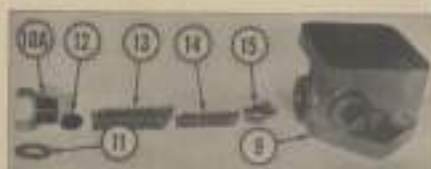

Fig. 17 — Exploded view of Webster power steering pump relief valve assembly shown at 10—Fig. 16.
On D-17 diesel and non-diesel Series III and Series IV models equipped with Webster power steering pump, remove hex plug (10A—Fig. 17) and add or remove shims (12) as necessary to obtain the correct opening pressure.
24A. OVERHAUL. After removing the pump as outlined in paragraph 24, scribe a line across cover, gear plate and pump body to aid in re-assembly and proceed as follows: Remove pressure relief valve plug (10A—Fig. 17), "O" ring (11), shims (12), outer spring (13), inner spring (14) and relief valve (15) from pump body. Be careful not to lose or damage any of the shims (12).